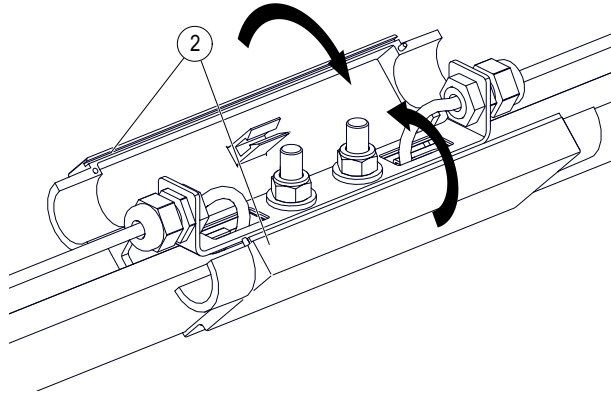
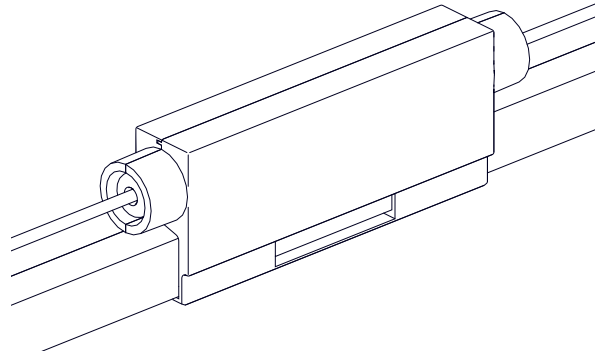

Fig. 33: Clip the two cap halves together
Fig. 34: The two cap halves without cap nut and grommet
→ Clip the two cap halves (item 2) together (see Fig. 33 and Fig. 34).